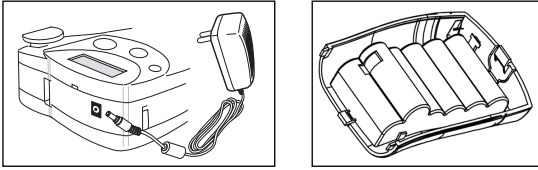

Fig. 2
- Connect the AC adaptor to socket (Fig. 2). Inserting the adaptor plug disconnects the supply from the batteries.